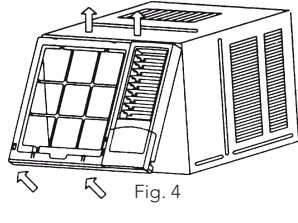

Fig. 4
- 2 Grasp the left corner in the frame's underside, then loosen the frame. (see Fig.4)